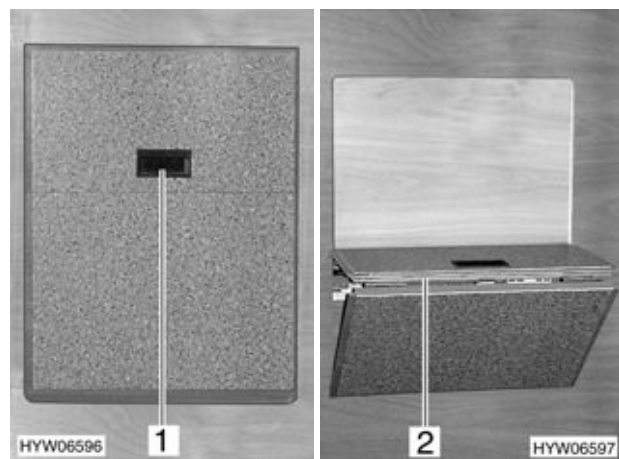

Fig. 74 Rear bed step
- Put your hand into the recessed grip (Fig. 74,1) and pull towards you.
- Pull guide step (Fig. 74,2) all the way down.